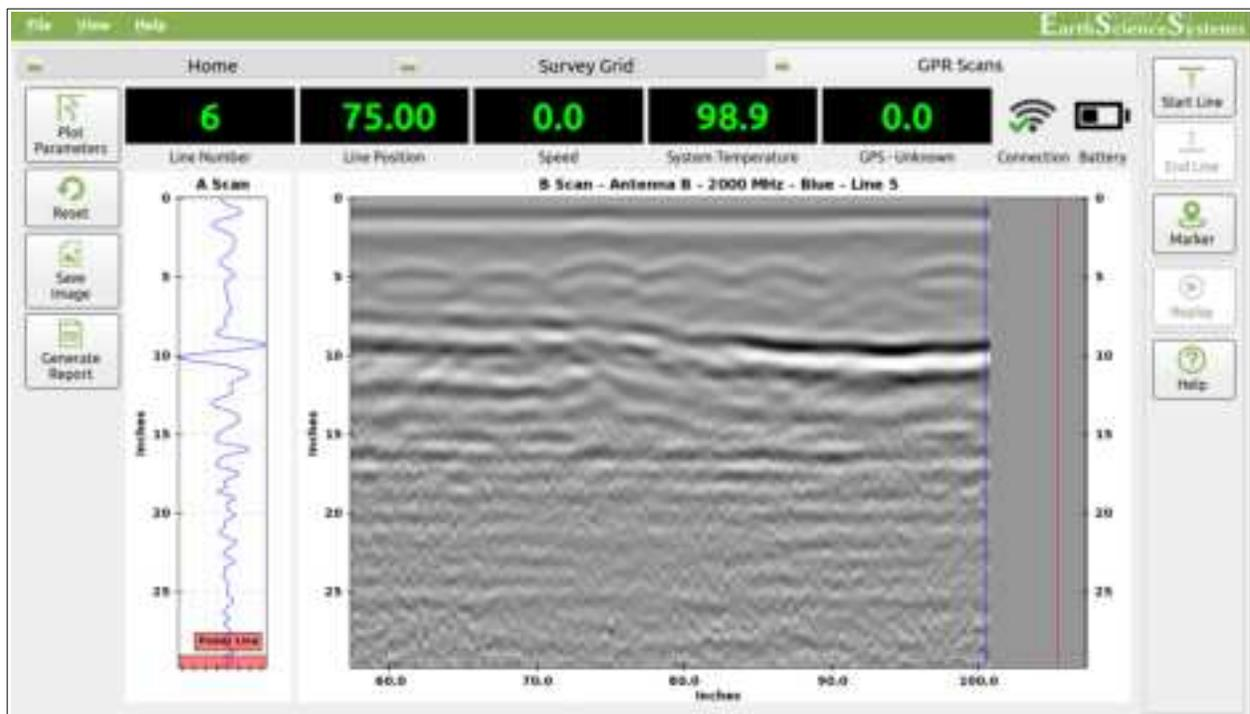

Figure 4: **GPR Scans** tab.
This tab is displayed (see Figure 4) by clicking the **GPR Scans** tab. The **GPR Scans** tab displays A-scan and B-scan plots that are useful for viewing GPR waveforms and ensuring
5. Start the data acquisition program by double tapping Surveyor Pro icon on the desktop. Press the Connect button to connect to the scanner. After a few seconds the program will display the GPR Scans tab and will start updating with data (see Figure 4). The green light on the scanner's power button will flash slowly when it is connected to the acquisition program on the tablet computer.
5. Start the data acquisition program by double tapping the *Surveyor Pro* icon on the desktop. Press the *Connect* button to connect to the scanner. After a few seconds the program will display the *GPR Scans* tab and will start updating with data (see Figure 4). The green light on the scanner's power button will flash slowly when it is connected to the acquisition program on the tablet computer.